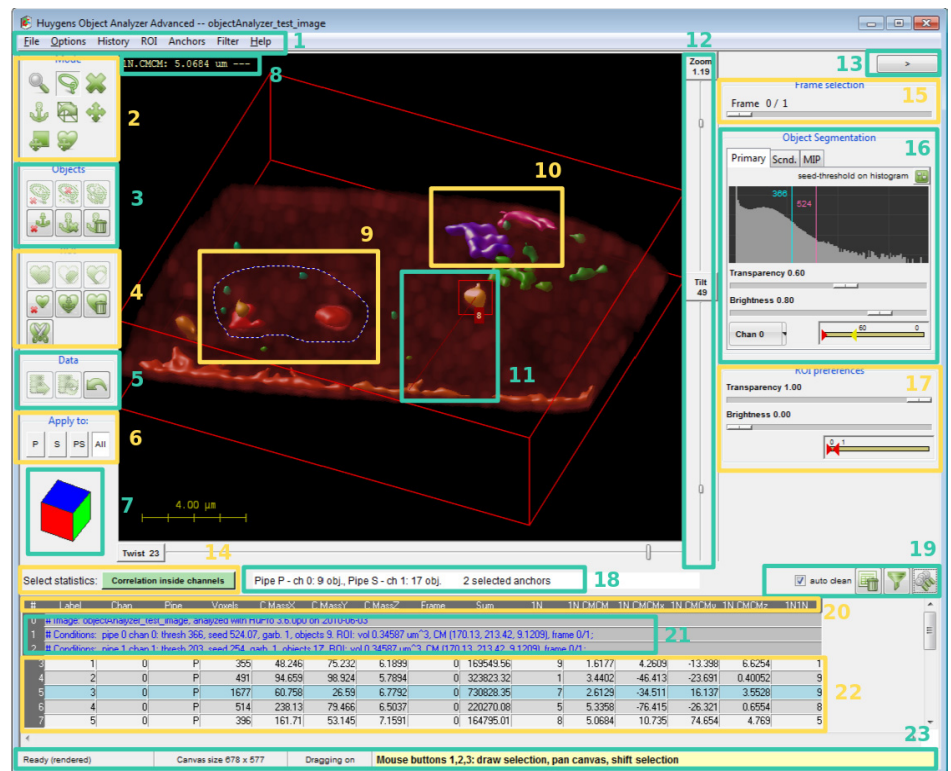

FIGURE 14.1. The Object Analyzer interface. Different regions are enumerated to describe them in sections of this chapter.
The OA main window is shown in Figure 14.1 with most of its components in an active state. Different regions of the interface are enumerated to describe them conveniently along this chapter.
For the advanced users: some of these mouse modes have 'shortcuts' in other mouse modes. Most of the times you can 'pan scene' independently of the selected mouse mode if you use your mouse right button instead of the left one. Similarly, you can 'pan canvas' using the middle button at any time. You will learn this with practice if you need it, but you don't have to care about it right now. When a mouse mode is active and the cursor is inside the canvas, the tooltip in the status bar (See Figure 14.1, item 23) tells you what each mouse button can do.